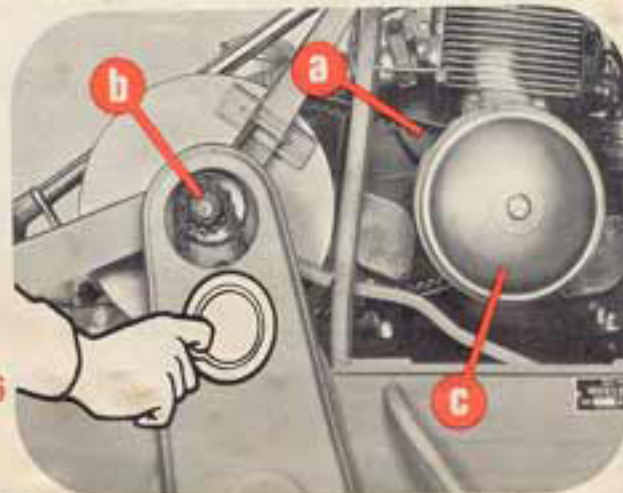

fig. 6
(fig. 6, a) Check to see that it is properly aligned and that it does not show signs of wear. See page 6.
(fig. 6, b) Check for proper tension. See page 7.
B. DRIVE CHAIN (fig. 6, b).
1. First, remove the chain guard cover (fig. 6, b)
- A. DRIVE BELT (fig. 6, a).
2. There should be a free-play of one (1) inch in the tension of the drive belt.
(fig. 6, b)